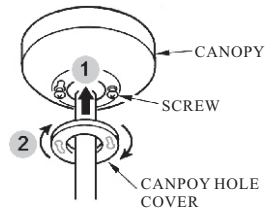

FIG. 15
5. Place the canopy hole cover over the screws and twist the cover to tighten. (See fig.15)